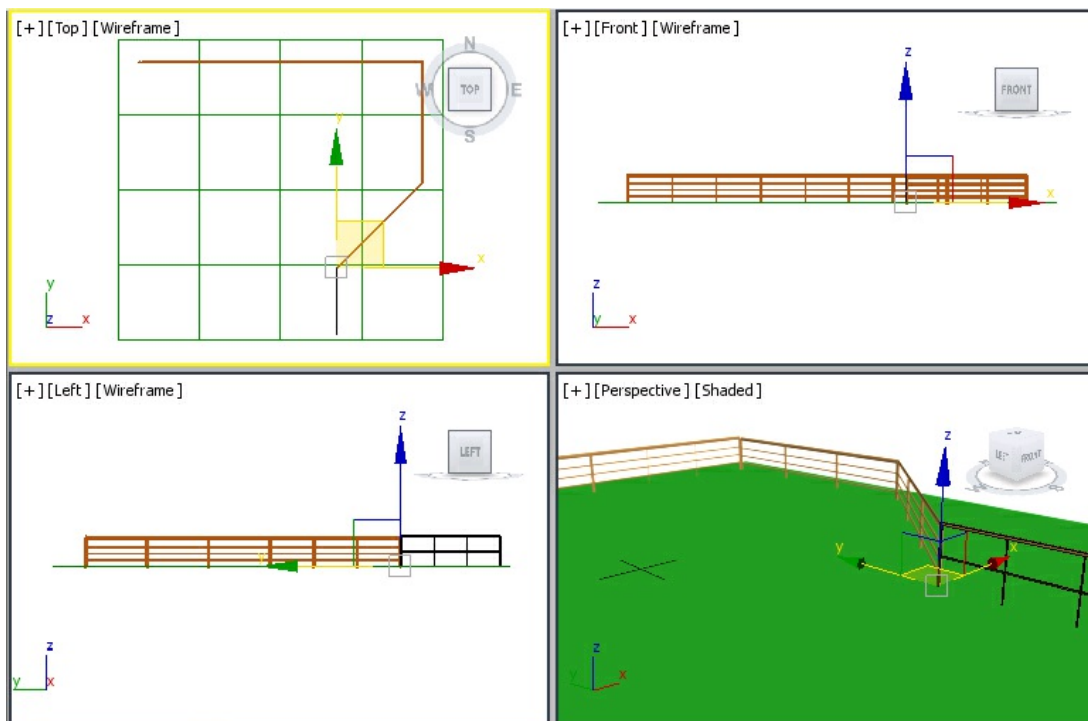

Figure 4-61 *The railing04 geometry aligned in viewports*
26. Make sure *railing04* is aligned in the viewports, as shown in Figure 4-61.